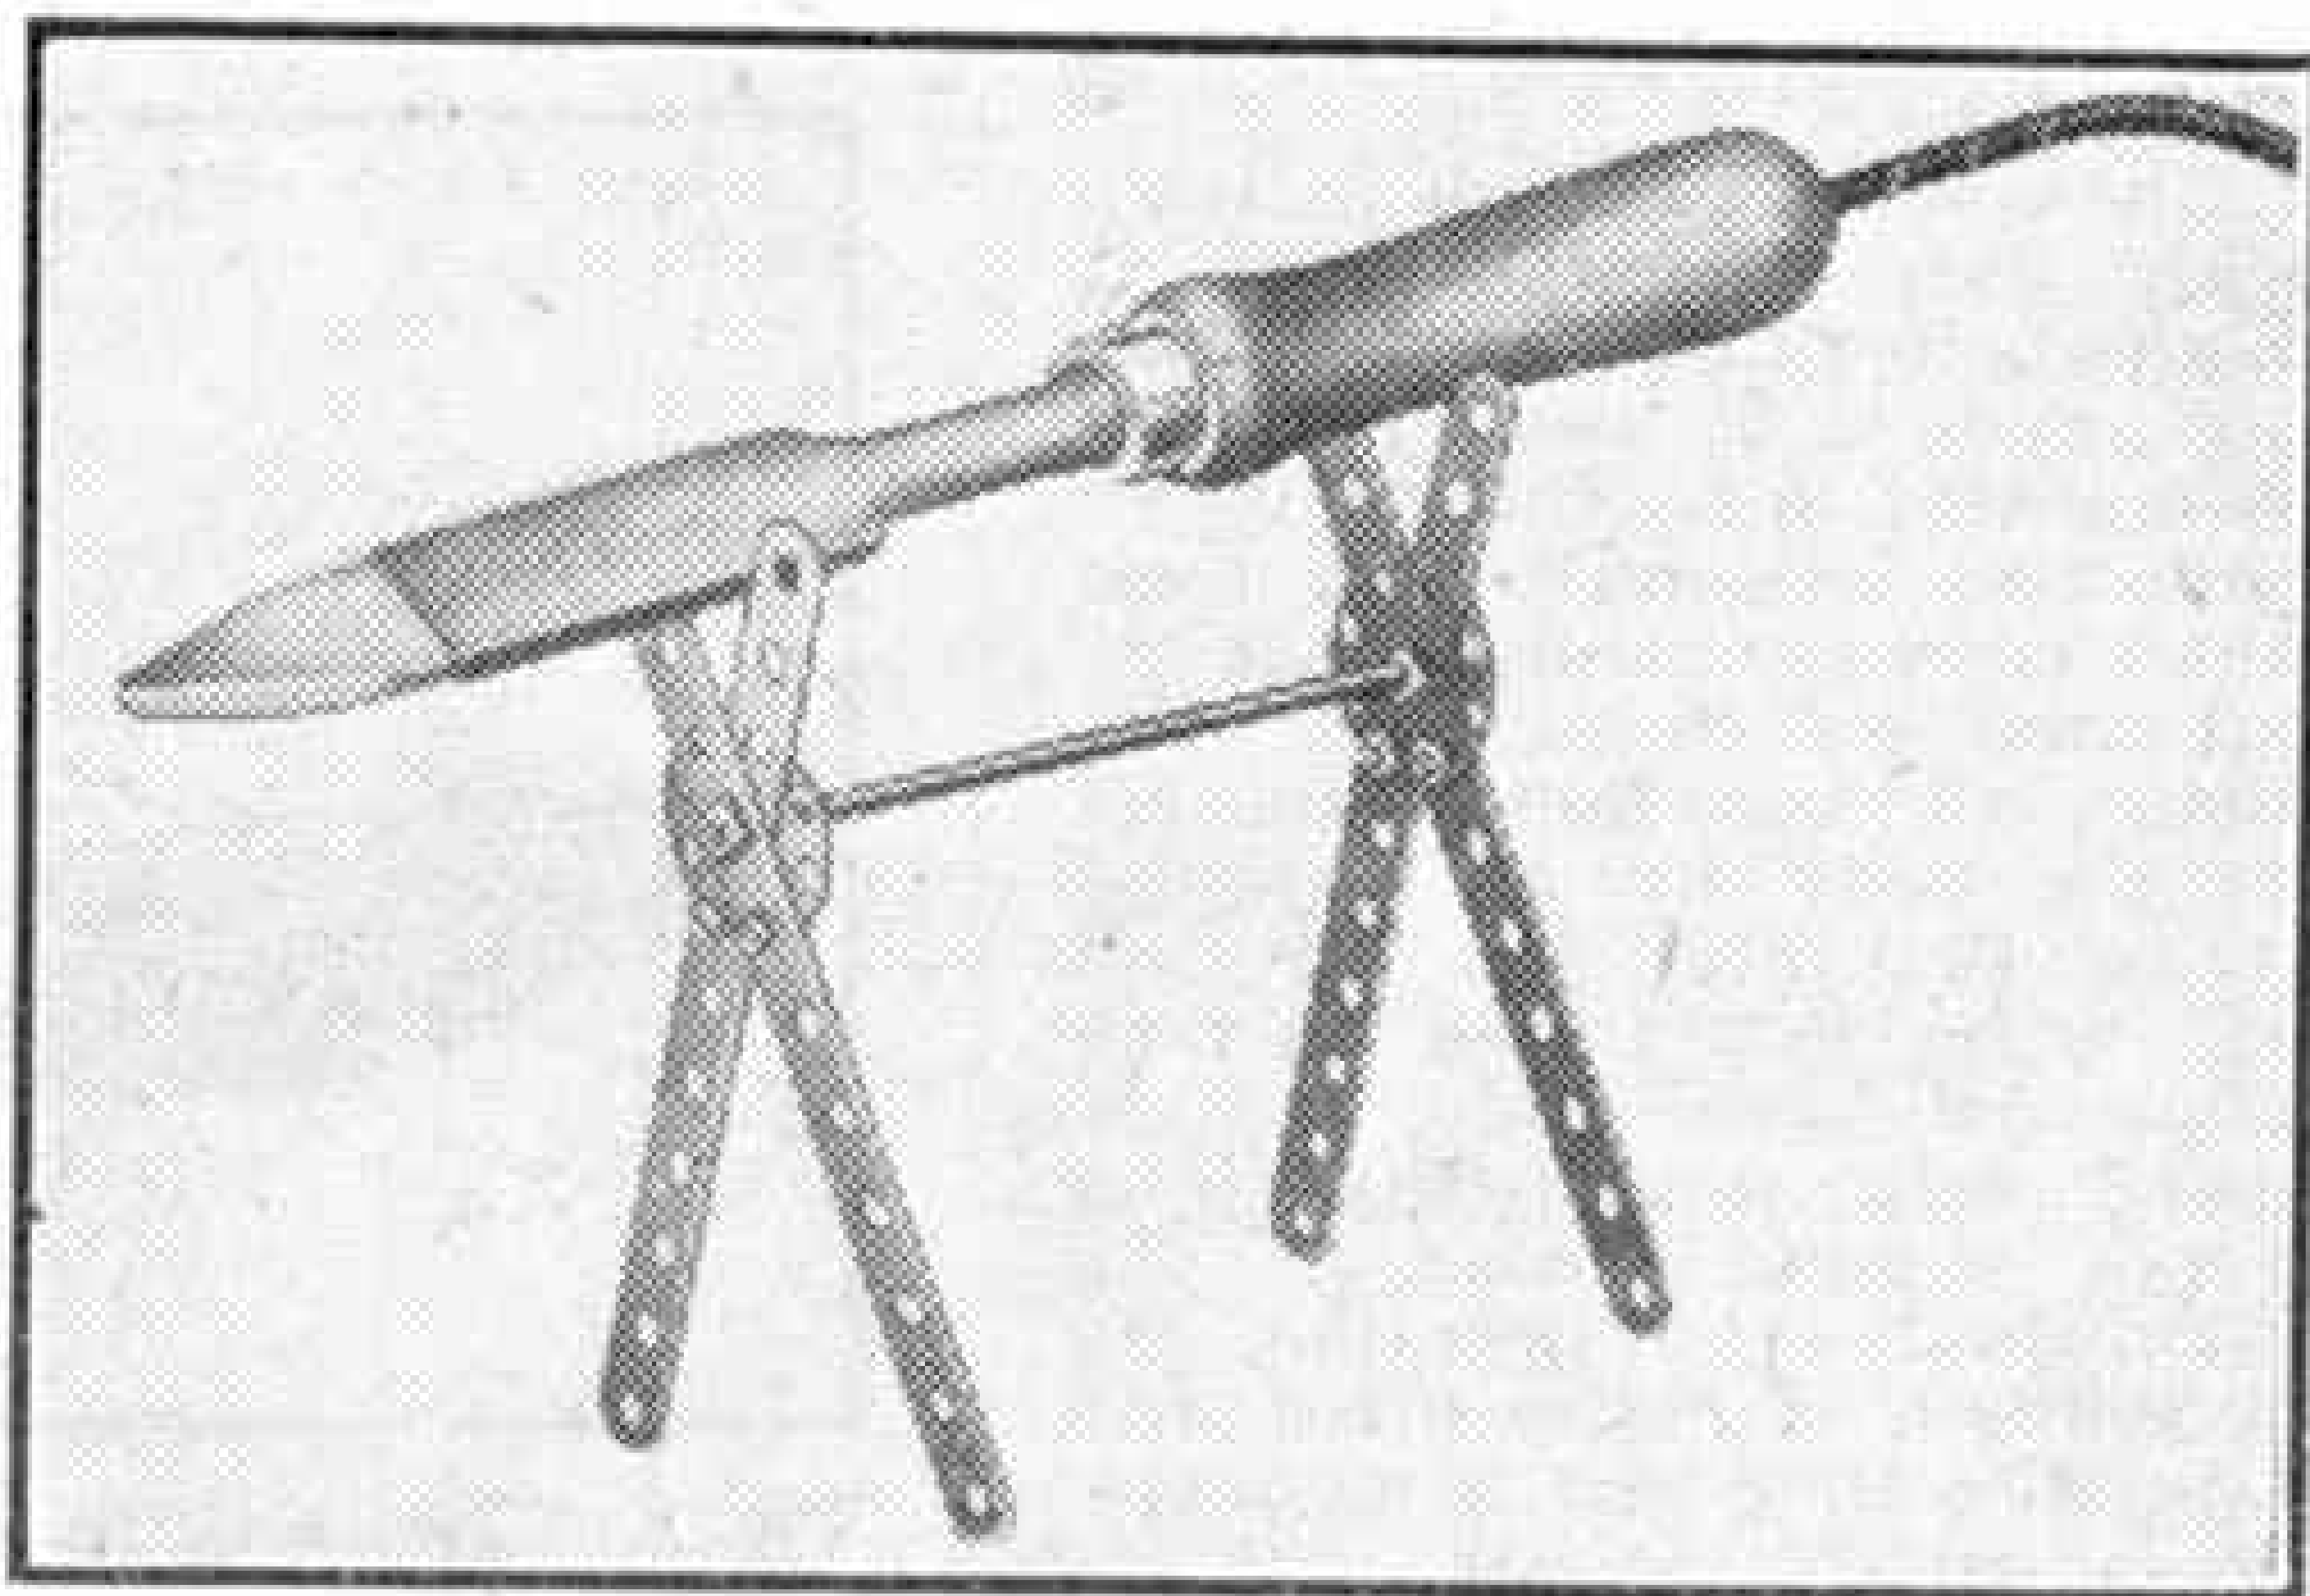

Fig. 671
N. C. Ta'Bois, who has been a regular contributor to "Suggestions Section" over a period of many years, recently submitted two further ideas that he thinks will interest other model-builders. The first of these is a useful stand for a soldering iron. This is shown in Fig. 671, and is constructed quite simply from a few Meccano parts.